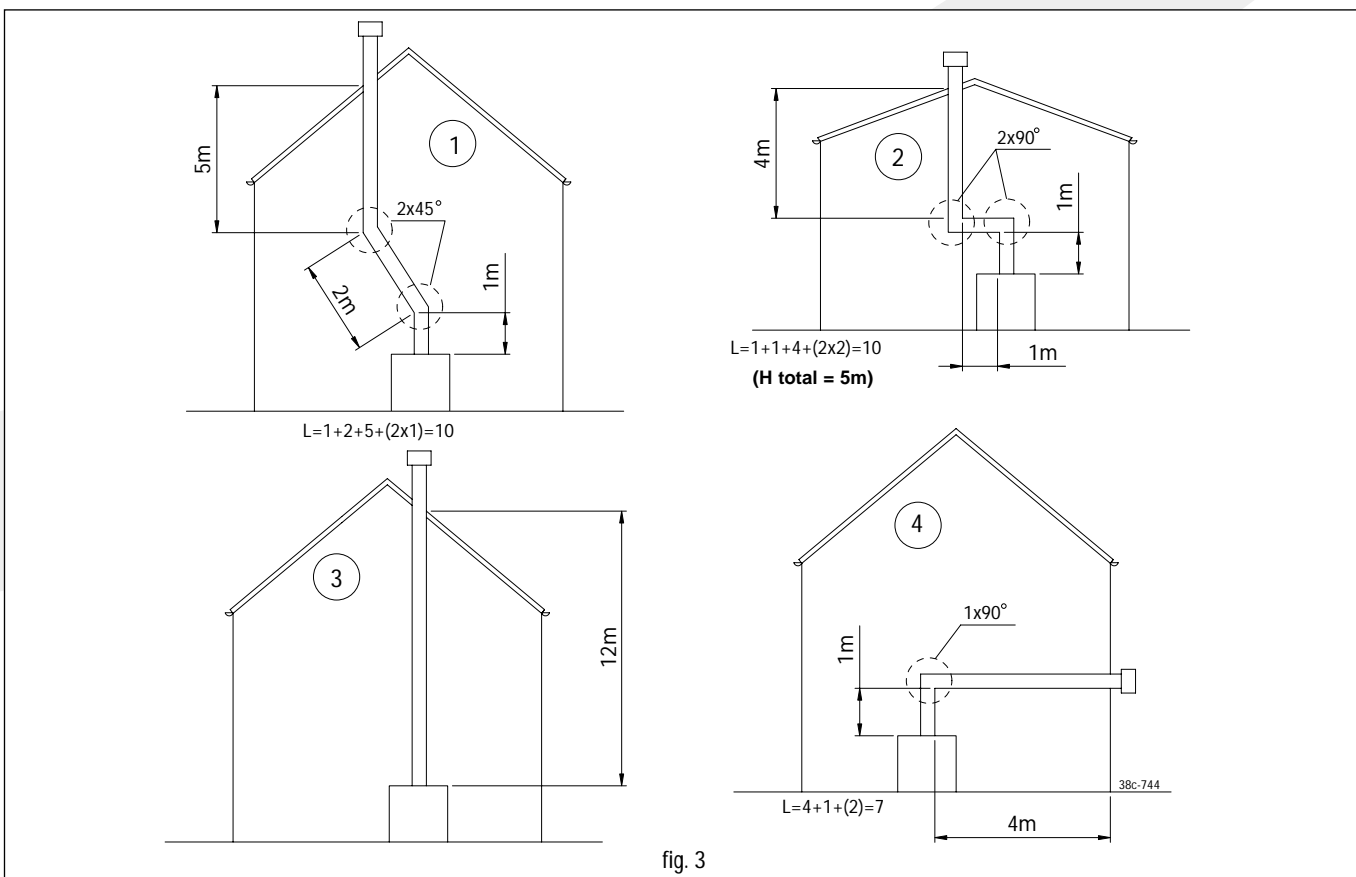

fig. 3
Possible connections (fig. 3)
The maximum total length is the sum of the pipe lengths plus the equivalent length for the bends (see the four examples in fig. 3).
- Select the required connection from the options shown in figure 3.
Fig. 3 illustrates how to calculate the total lengths.